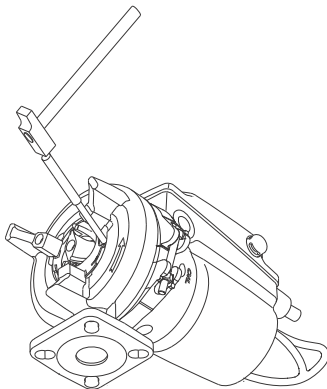

Fig. 9 Dismantling the grinder ring
4. Loosen the grinder ring (44) by knocking it clockwise with a punch (F). See fig. 9.